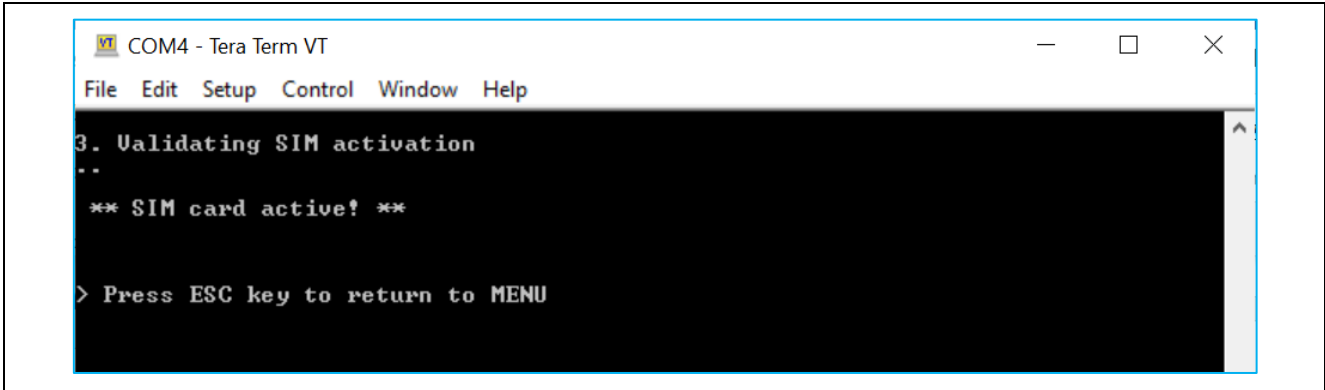

Figure 11. Validating SIM Activation
11. Finish the device registration. The **EK-RA4M2** kit and SIM card should be activated on the Launchpad platform and can be validated on the Tera Term terminal as shown in Figure 11.